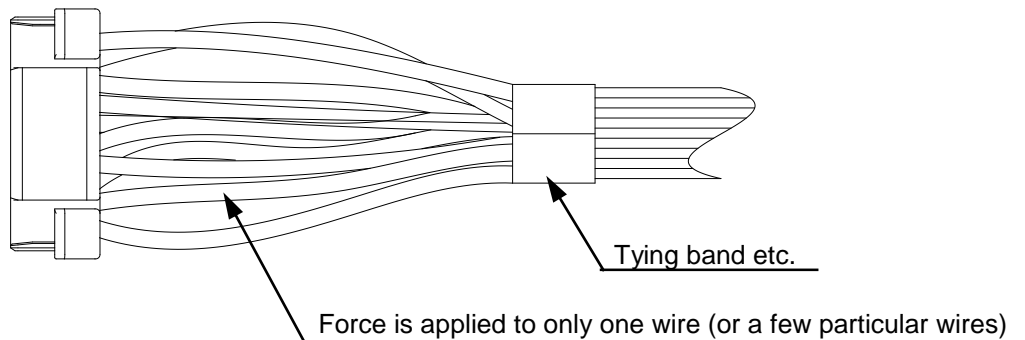

Fig.7-2 Harness is bundled improperly
- ② As for the harness, please do not apply force to only one wire (or a few particular wires). (Fig.7-2)